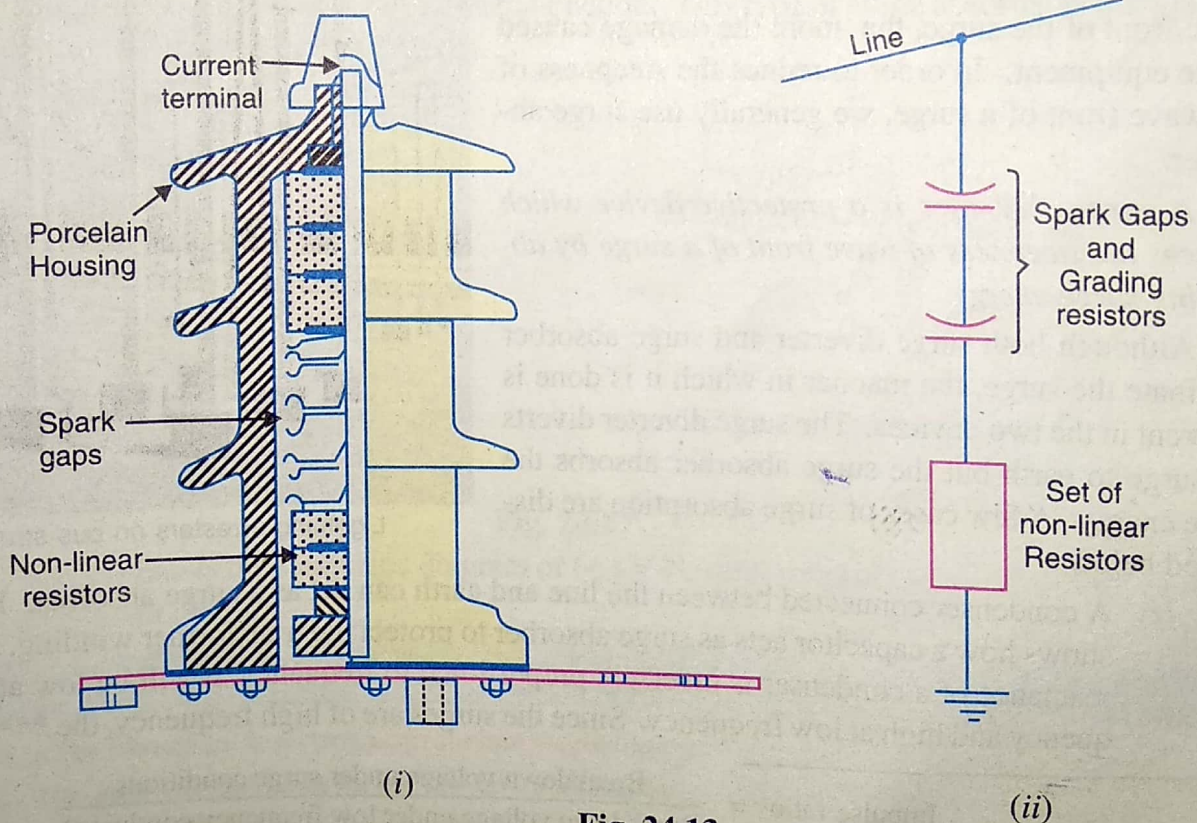

Fig. 24.13
5. Valve type arrester. Valve type arresters incorporate non-linear resistors and are extensively used on systems operating at high voltages. Fig. 24.13 (i) shows the various parts of a valve type arrester. It consists of two assemblies (i) series spark gaps and (ii) non-linear resistor discs (made of material such as thyrite or metrosil) in series. The non-linear elements are connected in series with the spark gaps. Both the assemblies are accommodated in tight porcelain container.